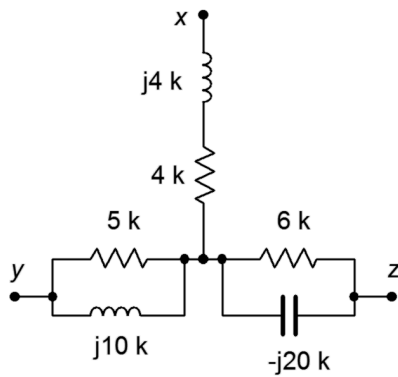

Figure 5.48
84. Convert the circuit of Figure 5.48 into the equivalent delta configuration.